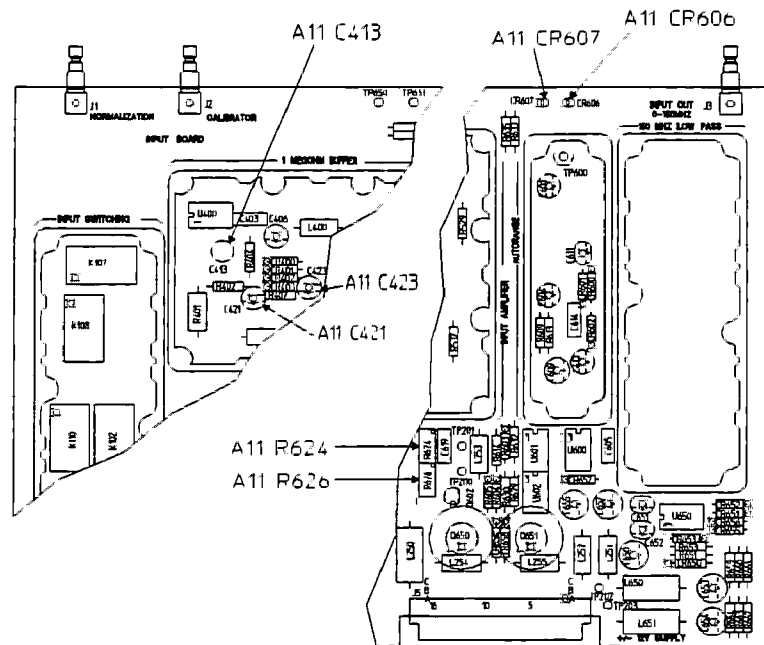

Figure 5-15. A11 Input Component Locator
5. Adjust A11 R624 (see figure 5-15) so that A11 CR606 just lights up, indicating that the upper threshold trip point was reached. (Turn A11 R624 counterclockwise to light A11 CR606.)